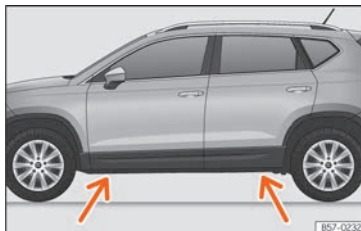

Fig. 78 Crossbar: brands.
- Place the jack* (vehicle tools) on firm ground. If necessary use a large, strong board or similar support. If the surface is slippery (for example tiles) place the jack on a rubber mat or similar to prevent it from slipping » **Fig. 78**.
- Find the support point on the strut (sunken area) closest to the wheel to be changed » **Fig. 78**.